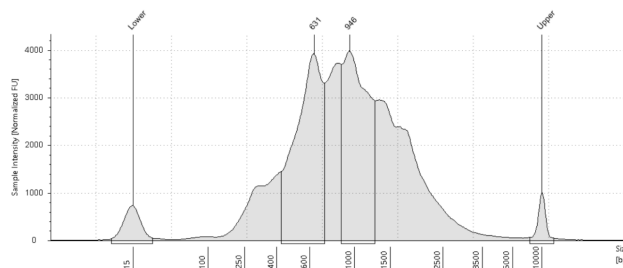

Figure 8. Representative cDNA traces for a 40,000 cell input human/mouse cell mixture (HEK 293T/NIH 3T3) using a **high sensitivity D5000 ScreenTape**.
2. Load an appropriate volume of the purified library on the fragment analyzer. Recommended loading concentration is 1-10 ng/uL on TapeStation and 1-2 ng/uL on Bioanalyzer (Figure 8). Loading less than 1 ng/uL may not give accurate results.